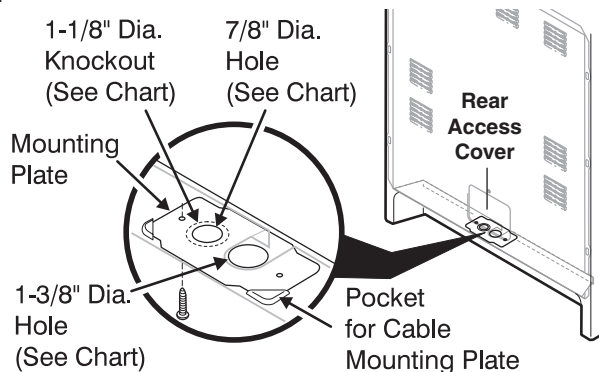

Fig. 9
The Rear Access Cover must be removed (Fig 9). To remove, loosen center screw (one screw) and remove cover. The terminal block will then be accessible.
NOTE: Range is shipped from factory with 1-3/8" dia. hole as shown. To use either 7/8" dia. hole or 1-1/8" dia. knockouts refer to Fig. 9.
- Follow the manufacturer's installation instructions supplied with the strain relief and install (Also see Figs. 9, 10 &
- Follow the manufacturer's installation instructions supplied with the strain relief and install (Also see Figs. 9, 10 & 11).
- Make sure all connections are tightened securely and replace the rear access cover (See Fig. 9).